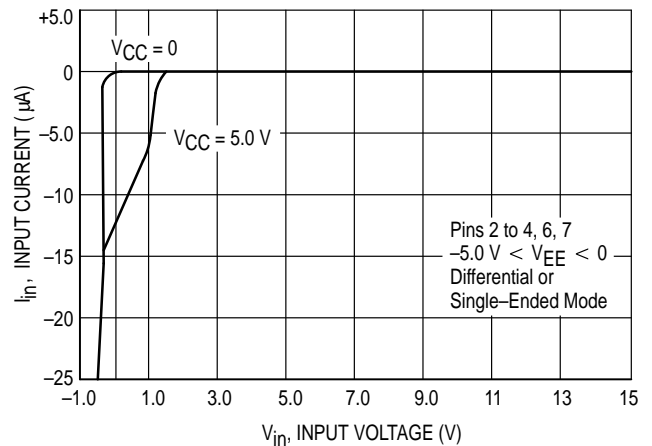

Figure 10. Output Voltage versus Output Source Current
In this mode (Pin 4 ≥ 2.0 V) V_{CC} requires +5.0 V, and V_{EE} requires –5.0 V, both $\pm 5.0\%$. Pins 2, 3, 6, and 7 are inputs for the four drivers, and Pins 15, 14, 11, and 10 (respectively) are the outputs. The four drivers are independent of each other, and each output will be at a positive or a negative voltage depending on its input state, the load current, and the supply voltage. Figures 10 & 11 indicate the high and low output voltages for $V_{CC} = 5.0$ V, and $V_{EE} = -5.0$ V. The graph of Figure 10 will vary directly with V_{CC} , and the graph of
The above equation assumes I_O has the same magnitude for both output states, and makes use of the fact that the absolute value of the graphs of Figures 10 and 11 are nearly identical. I_{B+} and I_{B-} are obtained from the right half of Figures 12 and 13, and $(V_{CC} - V_{OH})$ can be obtained from Figure 10. Note that the term $(V_{CC} - V_{OH})$ is constant for a given value of I_O and does not vary with V_{CC} . For an application involving the following conditions:
2) The device may be operated in the single-ended mode (Pin 4 = 1) with V_{EE} connected to any voltage between ground and -5.25 V. Outputs in the high state will be at a voltage as shown in Figure 10, while outputs in a low state will be referenced to V_{EE} .